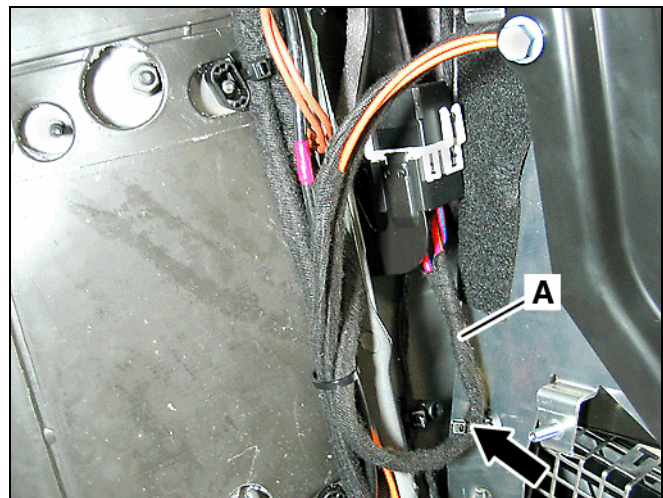

Figure 21
- Secure the wiring harness (A, Figure 21) for the fuel pump relay with the anchored wire tie (Arrow, Figure 21) attached to the SDARS control module bracket.